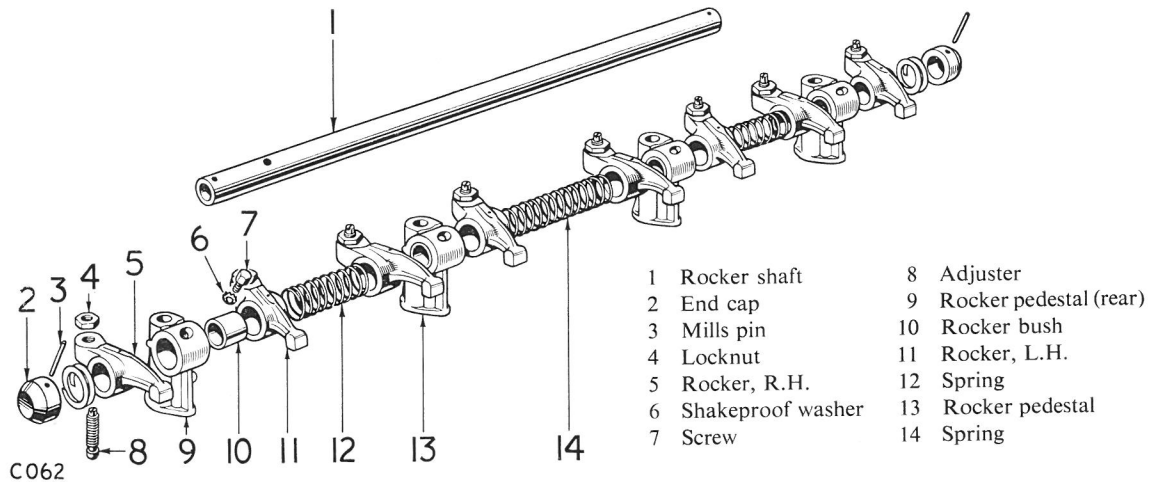

Fig. 58. Rocker shaft details
Lubricate and assemble the components onto the rocker shaft as shown on Fig. 58. Note that each pair of rockers are offset and that a shouldered screw and shakeproof washer are used to locate the rear pedestal on the shaft. Slacken off the locknuts (4) and screw in the adjusters (8) to avoid bending the pushrods. Lower the rocker shaft assembly over the four studs simultaneously locating the rocker adjusters in the push rod cups.